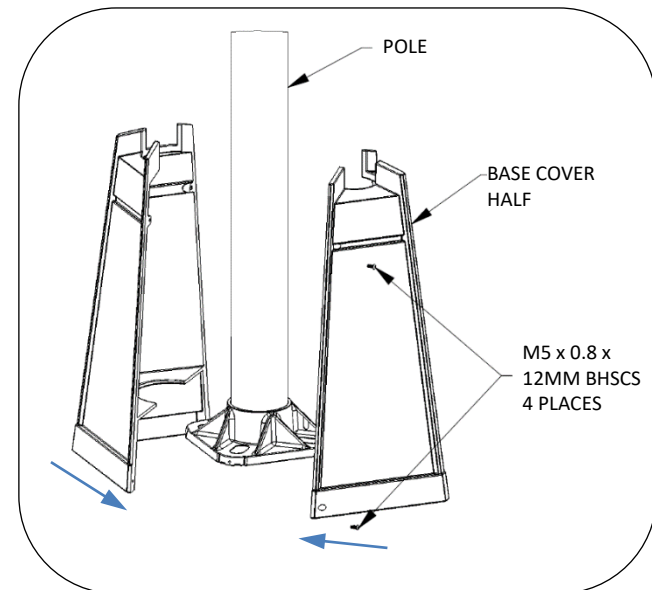

Fig. 8 – Install base cover
1. Place base covers in position. Using 3mm hex key, install M5x0.8x12mm button head cap screws (4 places) as shown in Fig. 8.